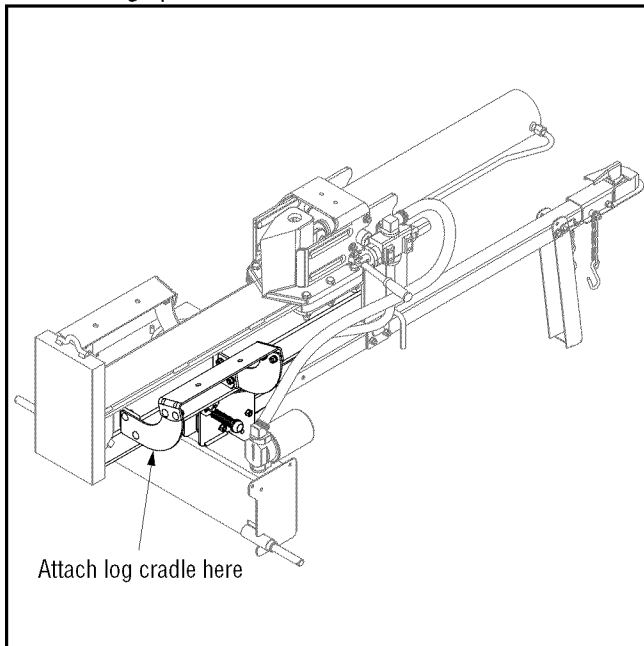

**Figure 4**
- Disconnect the log cradle from the beam on the side of the control valve. See Figure 4.